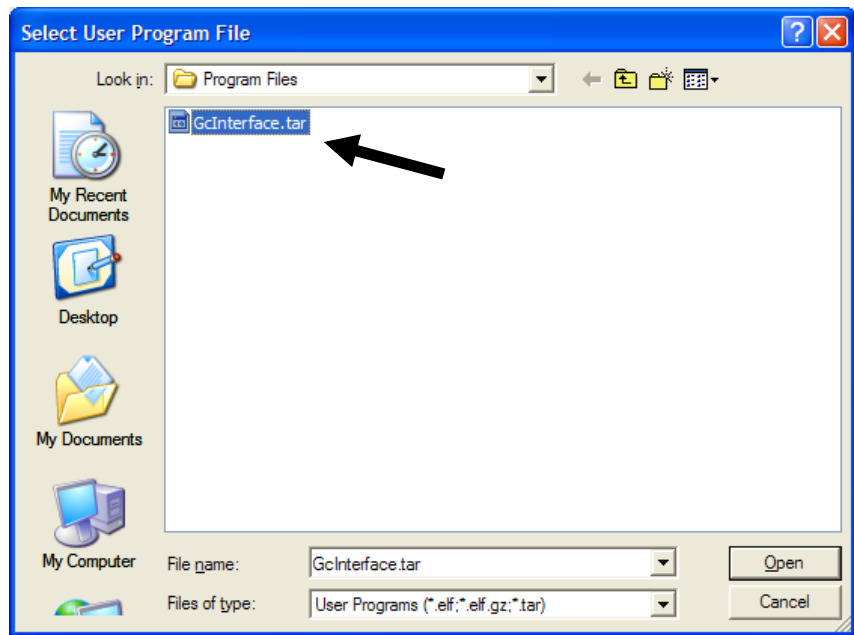

Figure 6. Select User Program File
5. Click **Browse** in the Download User Program File frame. The Select User Program File screen displays (see *Figure 6*).
6. Select the path and user program file to download from the CD-ROM. (Program files are typically located in the Program Files folder on the CD-ROM). As *Figure 6* shows, the screen lists all valid user program files with the .TAR extension: